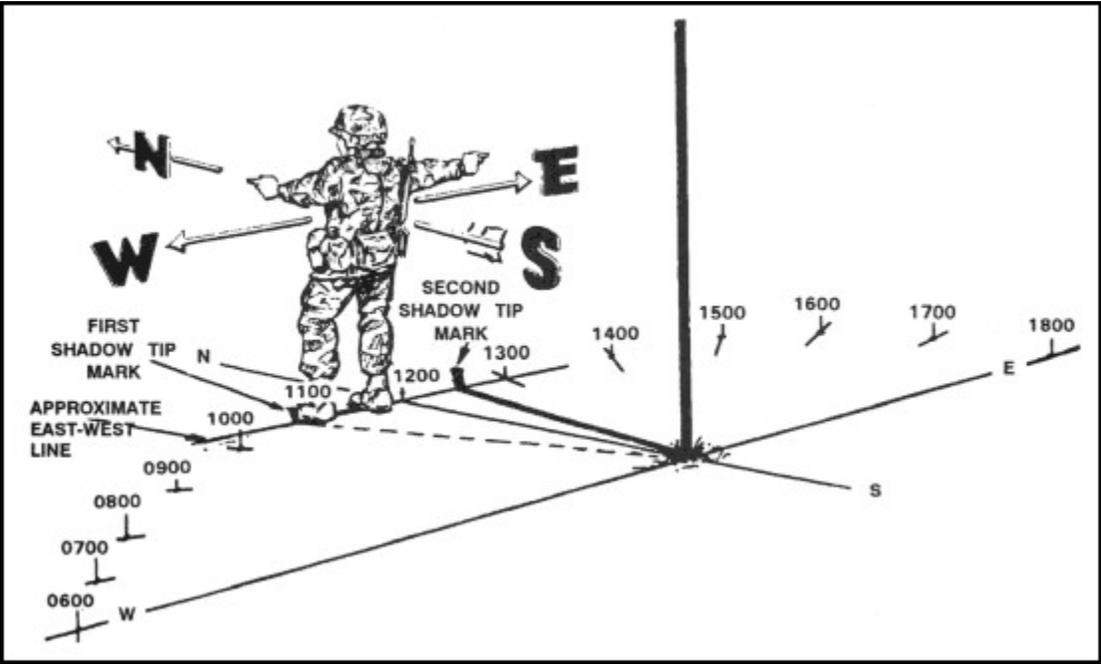

Figure 9-7. Determining directions and time by shadow.
(1) This simple and accurate method of finding direction by the sun consists of four basic steps (Figure 9-7).
(2) A line drawn perpendicular to the east-west line at any point is the approximate north-south line. If you are uncertain which direction is east and which is west, observe this simple rule--the first shadow-tip mark is always in the west direction, everywhere on earth.
(3) The shadow-tip method can also be used as a shadow clock to find the approximate time of day (Figure 9-7).